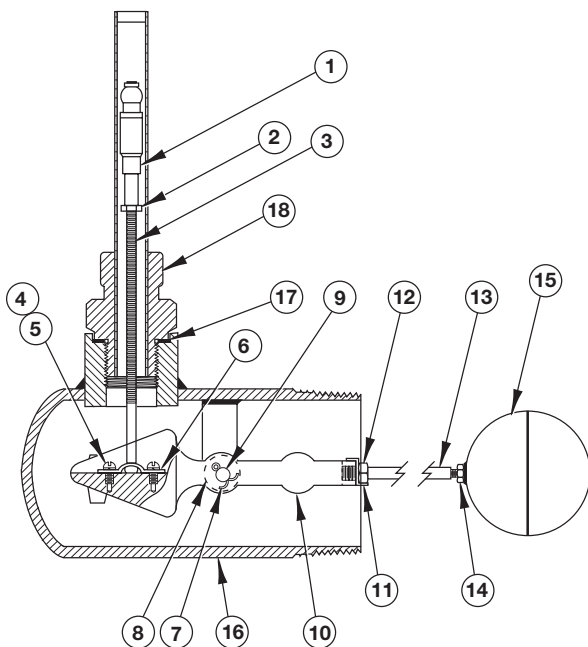

Figure 31
3.3.1.1 Model P68-2F2A Threaded 3" NPT (See Figure 31)